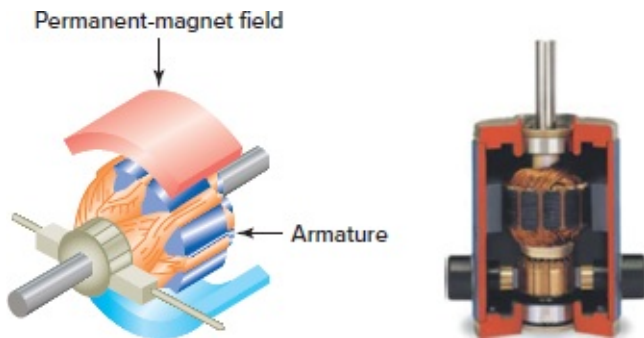

Figure 5-14 Permanent-magnet DC motor.
Figure 5-14 shows a permanent-magnet (PM) DC motor. The motor is made up of two main parts: a housing containing the field magnets and an armature consisting of coils of wire wound in slots in an iron core and connected to a commutator. Brushes, in contact with the commutator, carry current to the coils. PM motors produce high torque compared to wound-field motors. However, permanent-magnet motors are limited in load-handling ability and are therefore used mainly for low-horse-power applications.